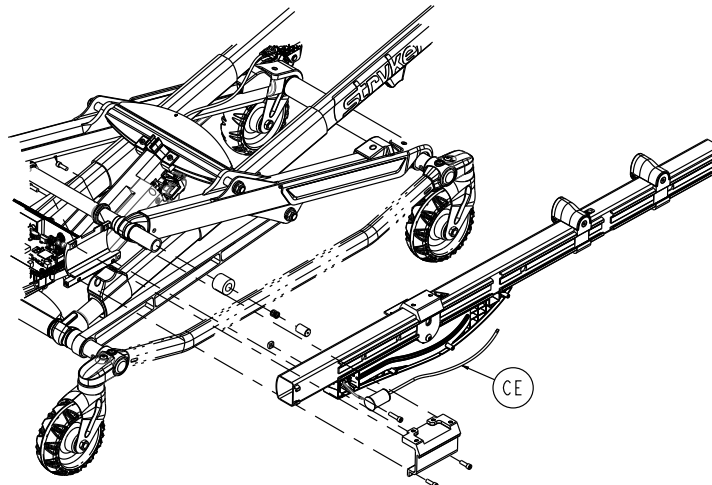

Figure 73 – Remove the MTS sensor
10. Remove the MTS sensor (CE) (Figure 73).